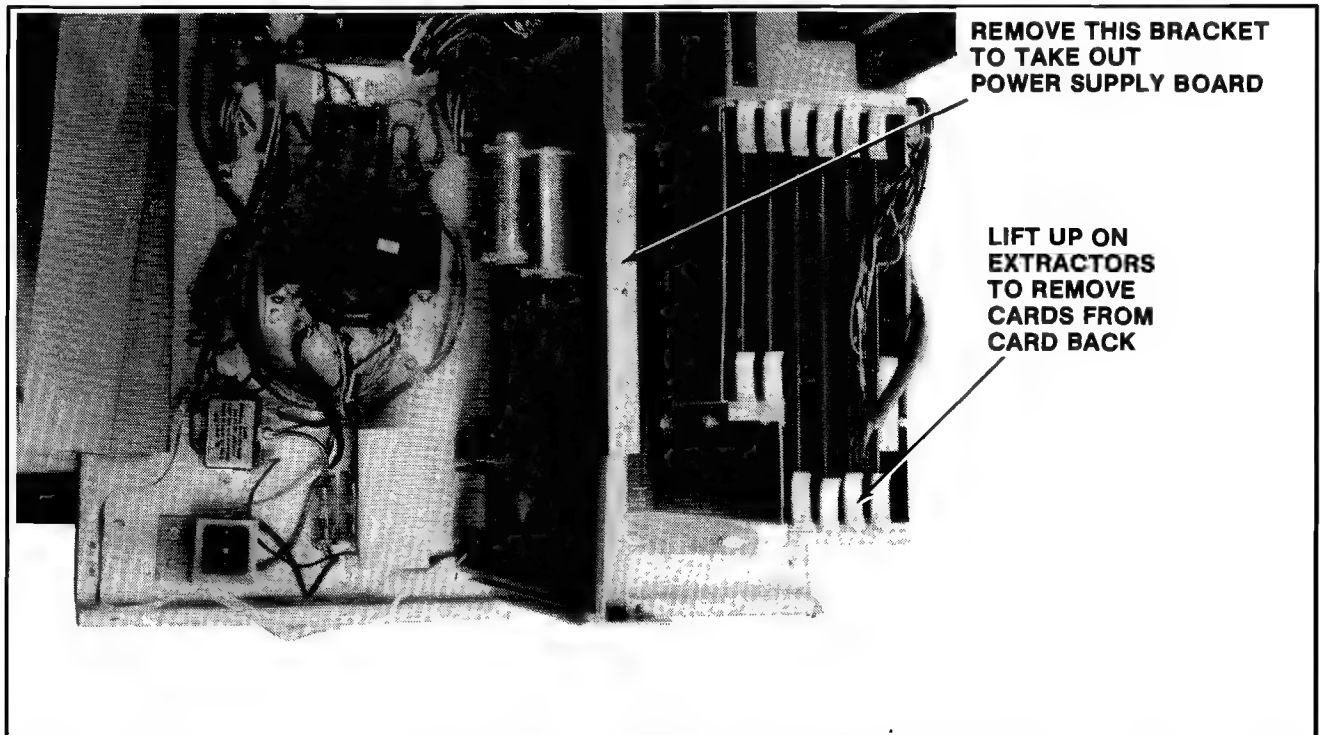

Figure 2-21 Removing Printed Circuit Boards - Upright
2.8.1 UPRIGHT MODEL: (See Figure 2-21) (Cont'd)
- ☐ Slide out the utility shelf. See Figure 2-21.
- ☐ To remove the power supply PCB for the commercial card rack. See Figure 2-21.